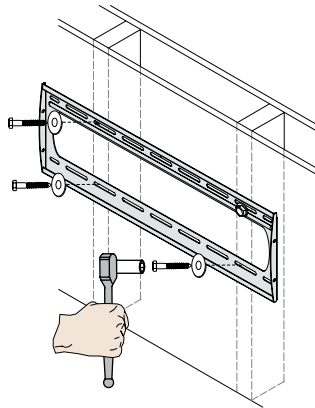

Figure 11. Inserting the Lag Bolts
13. Insert one 5/16" x 3" lag bolt and one 5/16" washer into each pilot hole (Figure 11).